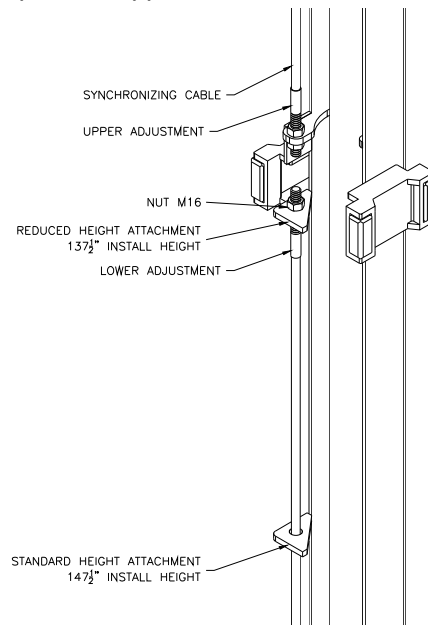

Fig 4 – Synchronizing Cables
- 15) Attach one end of synchronizing cable to carriage. See **Fig 4** for proper attachment.
- 16) Route cable up and over sheave in overhead. Follow across to other sheave on opposite column. Route down through carriage to sheave in bottom of column. Route under sheave and up to cable attachment. Lower attachment point is used for Standard Height Installation (147 1/2") and the Upper attachment point is used for Reduced Height Installation (137 1/2"). Use **Fig 4** for proper attachment.